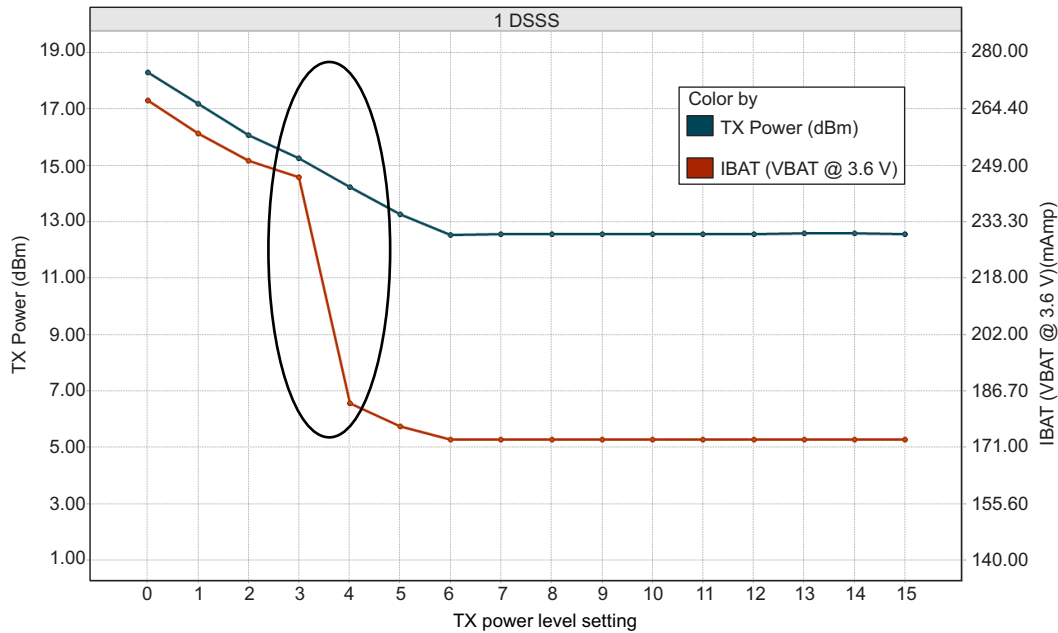
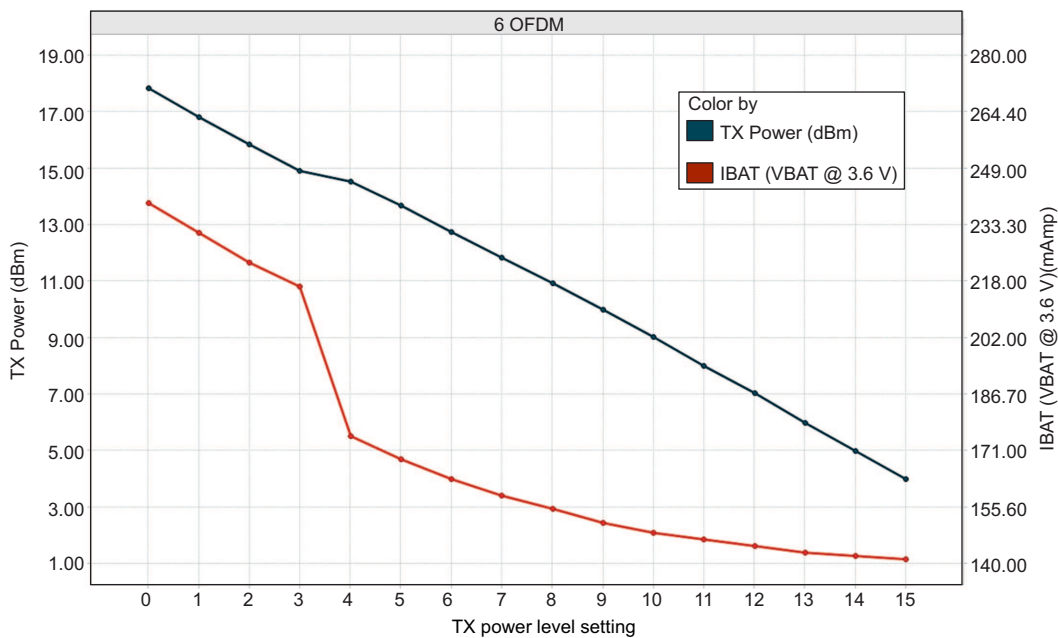
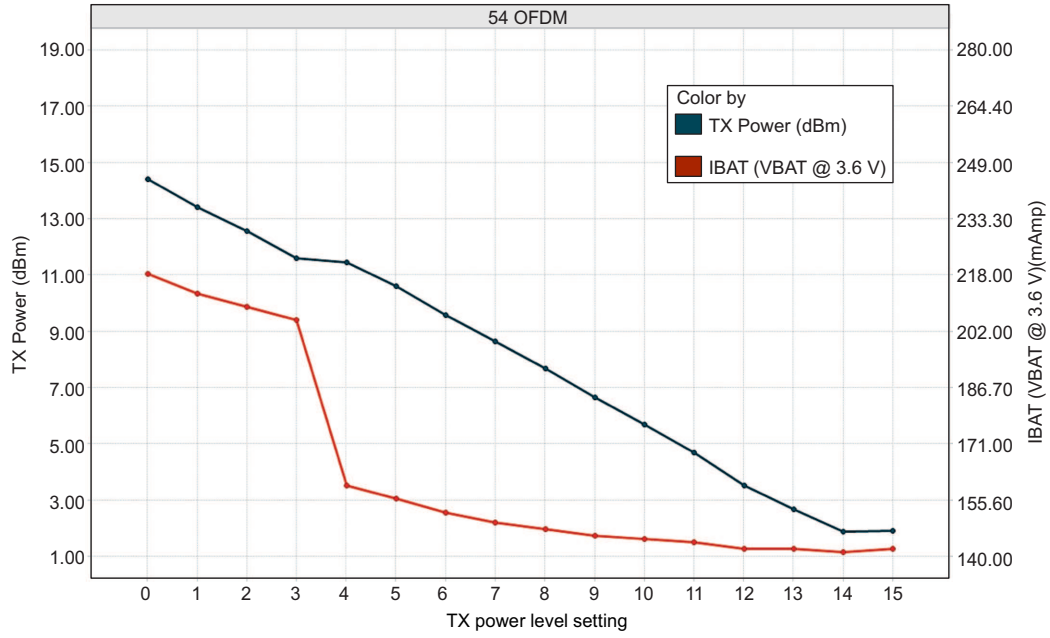

Figure 5-1. TX Power and IBAT vs TX Power Level Settings (1 DSSS)
Figure 5-2. TX Power and IBAT vs TX Power Level Settings (6 OFDM)
Figure 5-3. TX Power and IBAT vs TX Power Level Settings (54 OFDM)
- (1) TX power level = 0 implies maximum power (see Figure 5-1, Figure 5-2, and Figure 5-3). TX power level = 4 implies output power backed off approximately 4 dB.
- (2) CC3220MODx and CC3220MODAx are constant, power-source systems. The active current numbers scale based on the V_{BAT} voltage supplied.
- (3) The RX current is measured with a 1-Mbps throughput rate.
- (4) DTIM = 1
- (5) The LPDS number of reported is with retention of 256KB of MCU SRAM. The CC3220MODx and CC3220MODAx modules can be configured to retain 0KB, 64KB, 128KB, 192KB, or 256KB of SRAM in LPDS. Each 64-KB block of MCU retained SRAM increases LPDS current by 4 μA .
- (6) The complete calibration can take up to 17 mJ of energy from the battery over a time of 24 ms. In default mode, calibration is performed sparingly, and typically occurs when re-enabling the NWP and when the temperature has changed by more than 20°C. There are two additional calibration modes that may be used to reduced or completely eliminate the calibration event. For further details, see CC3x20 SimpleLink™ Wi-Fi® and Internet of Things Network Processor Programmer's Guide.
Figure 5-1, Figure 5-2, and Figure 5-3 show TX Power and IBAT versus TX power level settings for the CC3220MODS module at modulations of 1 DSSS, 6 OFDM, and 54 OFDM, respectively. For the CC3220MODSF module, the IBAT current has an increase of approximately 10 mA to 15 mA depending on the transmitted rate. The TX power level will remain the same.
In Figure 5-1, the area enclosed in the circle represents a significant reduction in current during transition from TX power level 3 to level 4. In the case of lower range requirements (14-dBm output power), TI recommends using TX power level 4 to reduce the current.